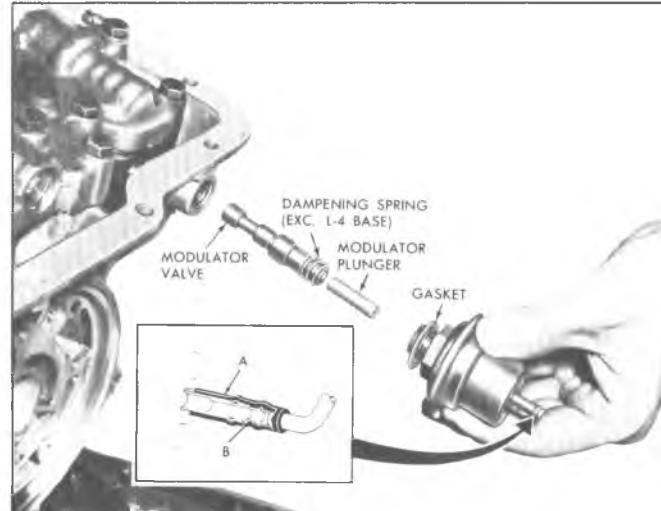

Fig. 10PG-Vacuum Modulator, Dampening Spring,
21. Remove the vacuum modulator and gasket, and the vacuum modulator plunger, dampening spring (except L-4 base) and valve (fig. 10PG).